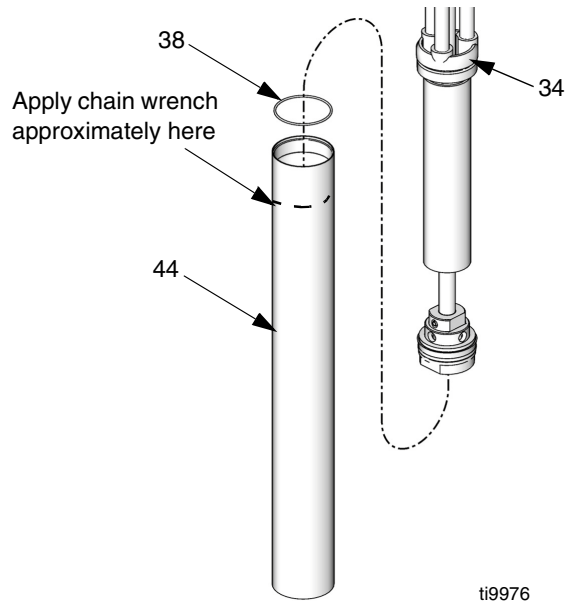

FIG. 18
5. Remove suction tube (44) from pump body (34). See FIG. 18.
6. Inspect o-ring (38) on pump body and suction tube for damage. See FIG. 18.